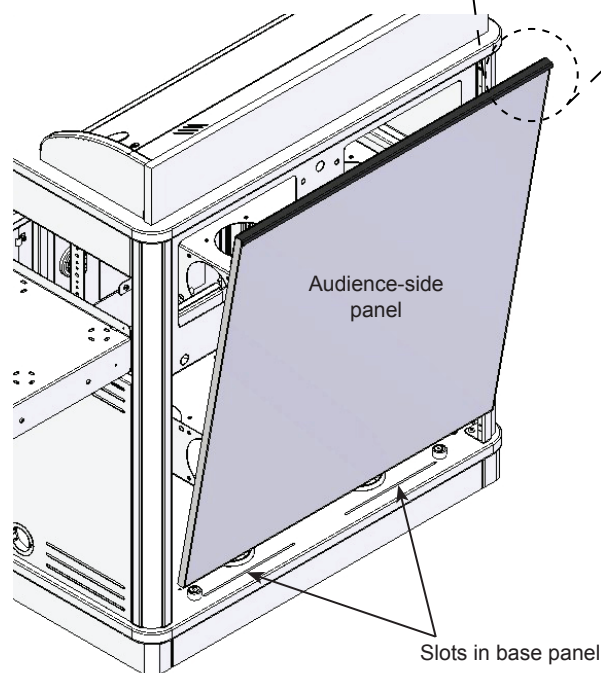

Figure 2C
3. Carefully pull the top of the panel away from the lectern to release the magnets, then lift the panel out. **Figure 2C.**